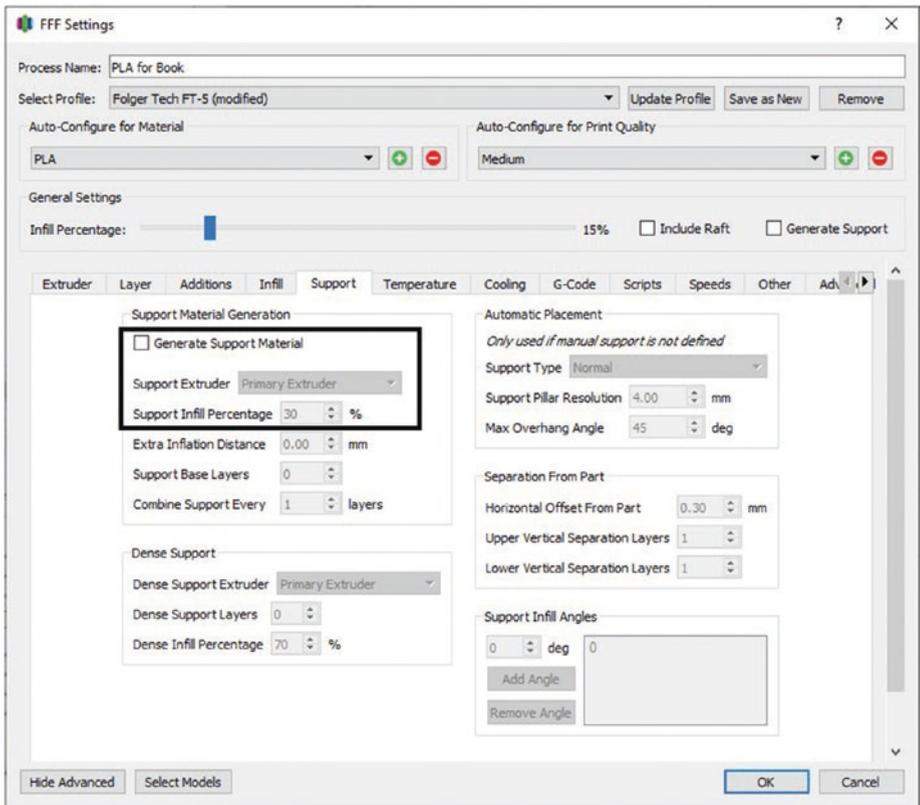

Figure 4-23. Support tab
5. Tab 5: Support (see Figure 4-23)